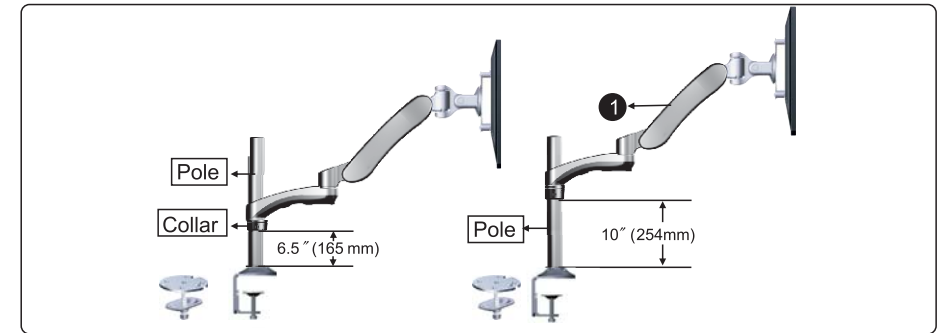

Figure 5-5
7. This product is brilliantly engineered and is designed to adjust quickly and easily according to your needs. To adjust the height, remove the Extension Arm from Pole or loosen Collar and raise or lower the Collar on Pole, attaching the Articulating Arm to achieve your desired position. (See Figure 5-5)